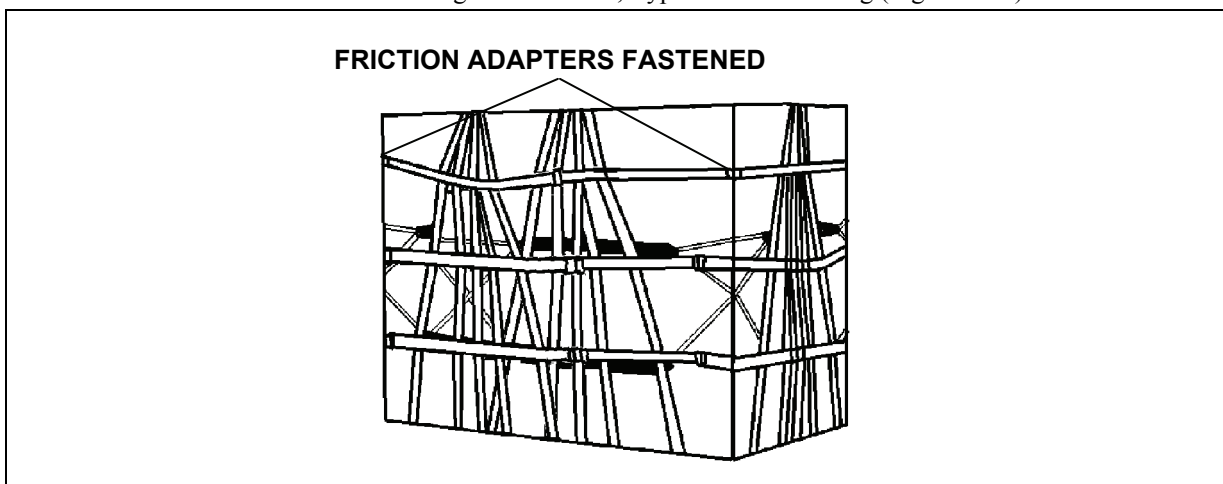

Figure 8-22. Sling Assemblies Fastened
- Lay the remaining portions of the sling assemblies over the load. Route the lateral straps through the friction adapters. Apply equal tension on the remaining lateral straps. Fold and secure the excess webbing with 1/4-inch, Type I cotton webbing (Figure 8-22).